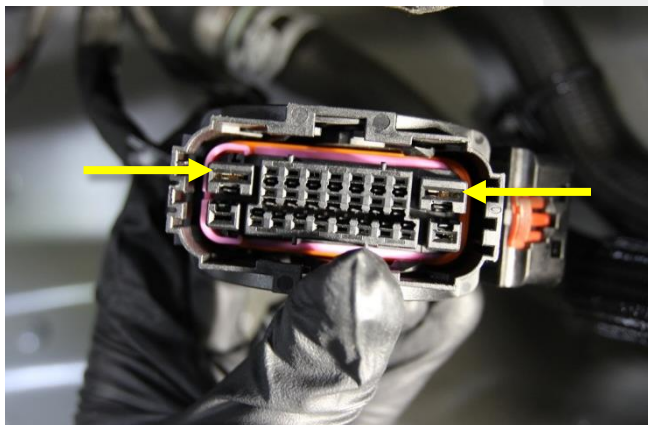

Figure 14
2. Inspect connector X117 at pins 1 and 9 for damage (Figures 14 and 15). Make sure that the pins are properly seated in the connector housing and that there is no damage to the pin or connector. If damage is found, skip to section "Wire Repairs at Connector X117" later this document.